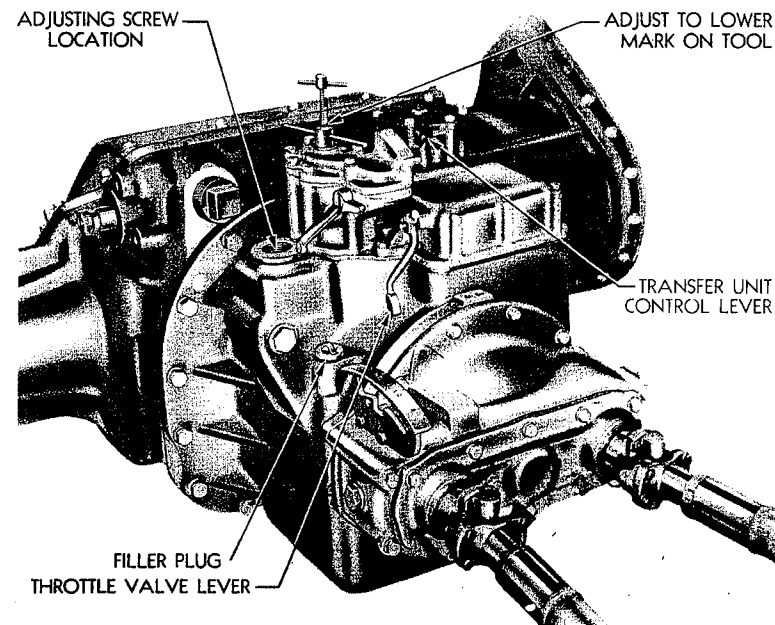

Figure 56—Transfer Unit Reverse Band Adjustment
- (1) Shift Hydra-Matic selector lever to "Reverse" position, and leave there until all adjustments are completed.
- (2) Remove plug over adjusting screw (See Fig. 56).
- (3) Lift up lock plate that holds adjusting screw and back off adjusting screw two or three complete turns.
- (4) Remove acorn plug from reverse servo cover and screw in servo adjuster, Tool No. B-226839, until it bottoms in tapped hole in upper end of piston shaft.
(5) Adjust T-handle pressure nut on tool to bring "Reverse" notch (lower notch) on screw flush with top of pressure nut.
(6) If band is properly adjusted, there will be .002" to .005" clearance between pressure nut and servo cover, as measured with a feeler gauge.
(7) If pressure nut is tight against cover, band is too loose. Turn pressure nut down on screw until servo spring pressure is released, freeing band. Then loosen band adjusting screw one-half turn, reposition pressure nut at "Reverse" notch and recheck clearance with servo cover. Repeat until correct adjustment is obtained.
(8) Install plug over adjusting screw, using a new gasket.
(9) Remove tool from servo and install plug, using a new gasket.
(1) Remove clevis pin from throttle valve lever and rod.
(2) Remove cap screws holding cover on top of transfer case (Fig. 56).
(3) Remove cover and control lever assembly.
(4) Remove five cap screws holding control valve to base.
(5) Remove control valve.
(6) Replace in reverse order, taking special care to see that the button on the inner selector lever engages in the slot in the valve. To make sure that button is properly engaged, remove the sight plug at the top of the case and see that the button is in proper position.
a. The transfer unit control lever is mounted on top of the transfer unit on the left side near the driver (Fig. 56). In the event of damage, the lever may be removed as follows:
(1) Remove pin from throttle valve lever and rod.
(2) Remove screws holding cover in place.
(3) Remove cover and transfer unit control lever assembly.
(4) Drive out pin holding lever to inner shaft.
(5) Remove outside control lever.
(6) Remove inner arm and shaft assembly from cover.